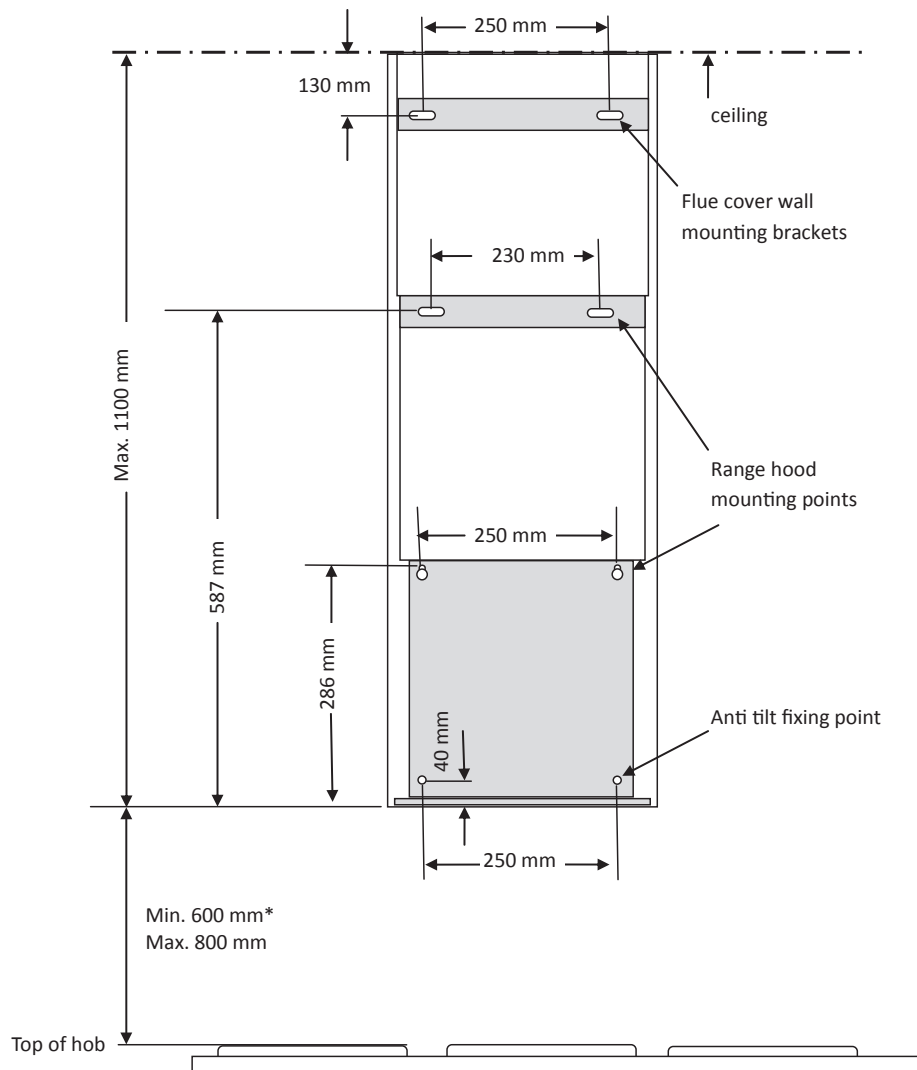

Fig. 7
3. Install flue cover wall mounting brackets with suitable fixings. Install suitable screws for rangehood mounting points (to support a total weight of 30kg) to the wall as marked (Fig. 7).
6. Hang the body hood on the mounting screws then secure at the anti-tilt locations as indicated in Fig. 7 & 8.